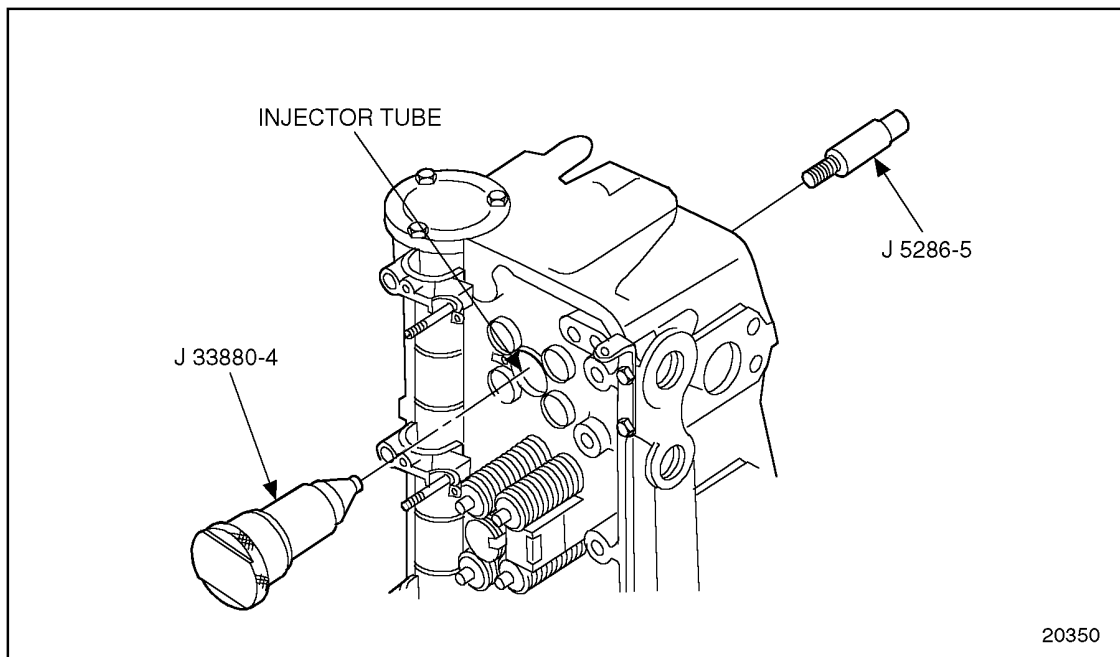

Figure 2-14 Removal of Injector Tube
2. Place the injector tube installation/removal tool, J 33880-4 part of J 33880, in the injector tube. Insert the pilot, J 5286-5 part of J 33880, through the small opening of the injector tube and thread the pilot into the tapped hole in the end of the installation/removal tool. See Figure 2-14.